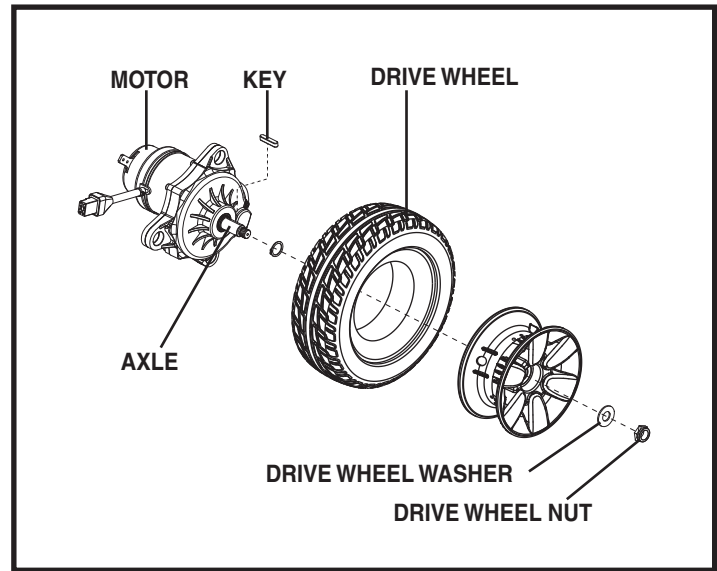

Figure 17. Jazzy Select Elite Drive Wheel Removal
8. Reinstall the drive wheel nut and washer onto the axle and tighten. **See figure 17.**